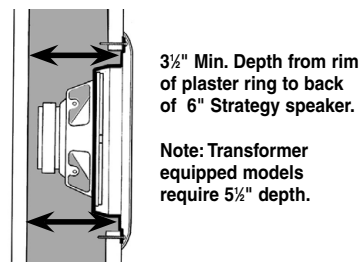

FIG. 5
- Figure 5 Illustrates wall-mount installation using plaster ring Model FAPR-6. A minimum wall depth of 3 1/2" (from rim of the plaster ring to the back of the speaker) is required for mounting.